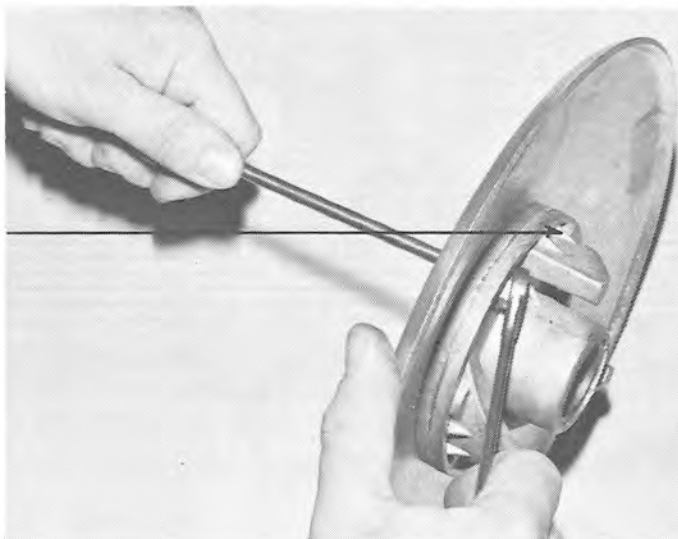

FIG. 4-21
5. This should allow cam bottom and movable sheave to be removed as a unit (See Figure 4-20), and disassembled if necessary. (See Figure 4-21.)